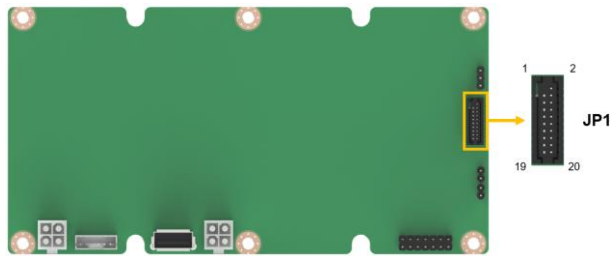

Figure 3-16: 7-segment Display Connector Location
- CN Location:** See **Figure 3-16**